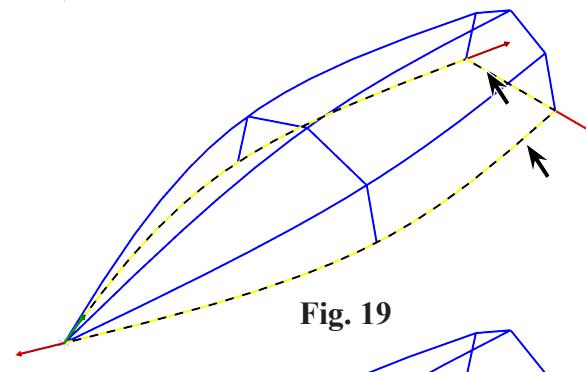

Fig. 19
Step 4. Walk Chain around the bottom rear and other bottom spline in direction of Chain arrows, Fig. 19.